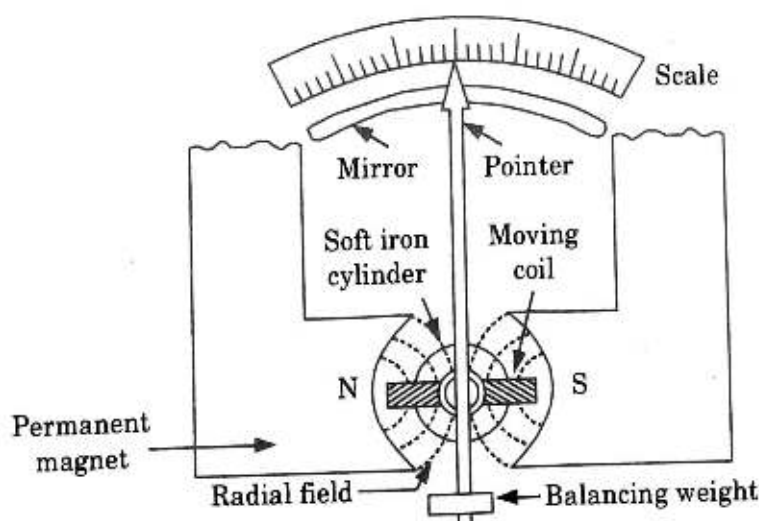

Fig. 1.20.1. PMMC.
4. Magnetic system consists of a long U-shaped permanent magnet having soft iron pole pieces. Fig. 1.20.1 shows the basic structure of PMMC.